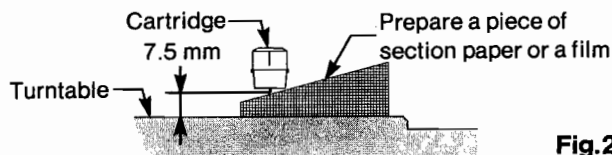

Fig.2
3. Turn the adjustment screw so that the stylus height is 7.5mm from the turntable (it is best to use some instrument like that depicted in Fig.2).